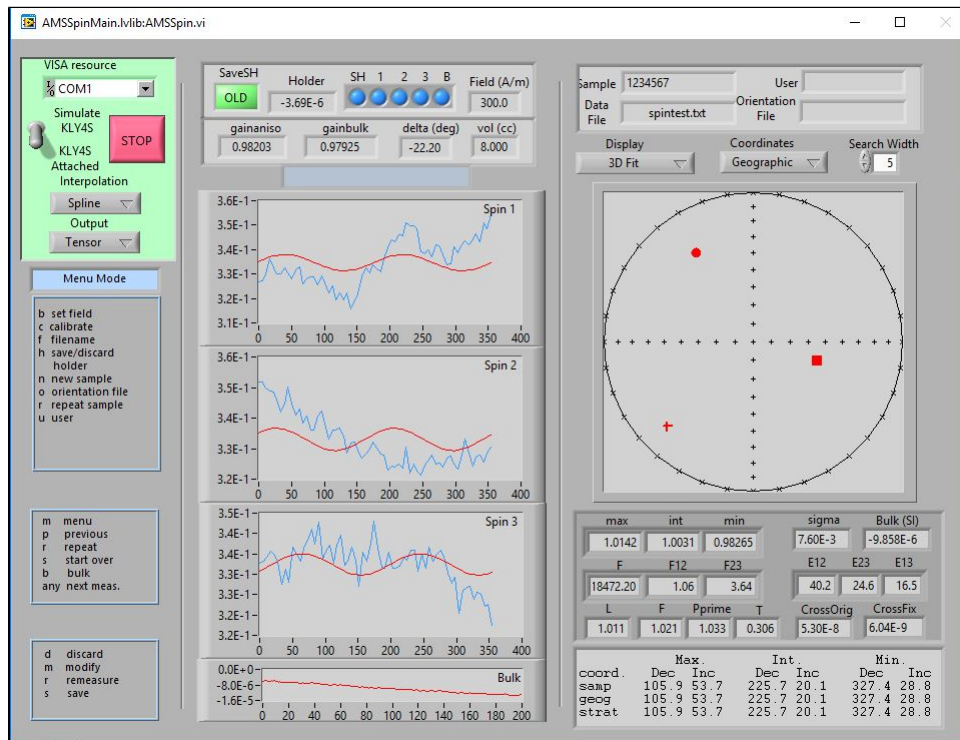

Figure 5b. Menu Mode of AMSSpin.
14. When the save is complete, the user is returned to the main menu (**Figure 5b**).